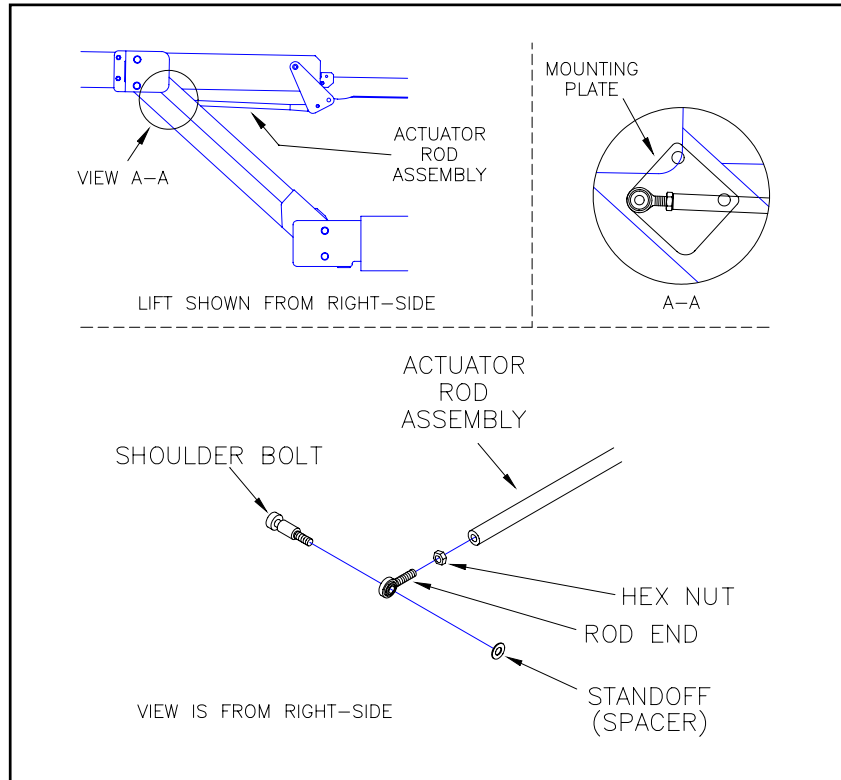

FIGURE 2-5: BRIDGEPLATE ACTUATOR ROD ASSEMBLY
- d. Refer to **Figure 2-5**. On the RIGHT-SIDE of the lift between the junction of the traveling frame and the platform assembly, locate the rod end of the actuator rod assembly. Loosen the rod end hex-nut.